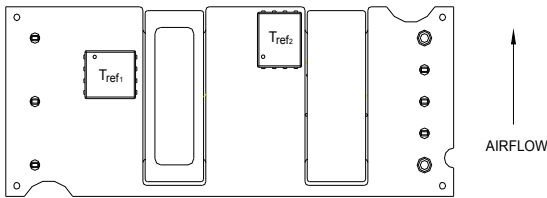
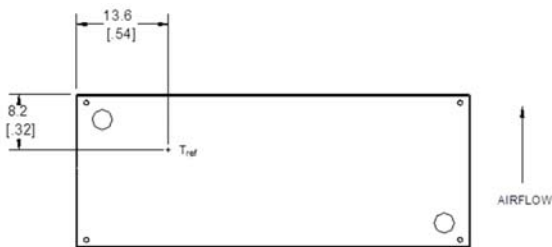

Figure 13.  $T_{ref}$  Temperature Measurement Locations for Open Frame Module.
Figure 14.  $T_{ref}$  Temperature Measurement Location for Module with Heatplate.
To provide protection under certain fault conditions, the unit is equipped with a thermal shutdown circuit. The unit will shutdown if the thermal reference point,  $T_{ref}$ , exceeds 135° C (Figure 13, typical or 120° C (Figure 14, typical)), but the thermal shutdown is not intended as a guarantee that the unit will survive temperatures beyond its rating. The module will automatically restart upon cool-down to a safe temperature.
The thermal reference points,  $T_{ref1}$  and  $T_{ref2}$ , used in the specifications for open frame modules are shown in Figure 13. For reliable operation these temperatures should not exceed 122° and 123°C respectively.
The thermal reference point,  $T_{ref}$ , used in the specifications for modules with heatplate is shown in Figure 14. For reliable operation this temperature should not exceed 100 °C.